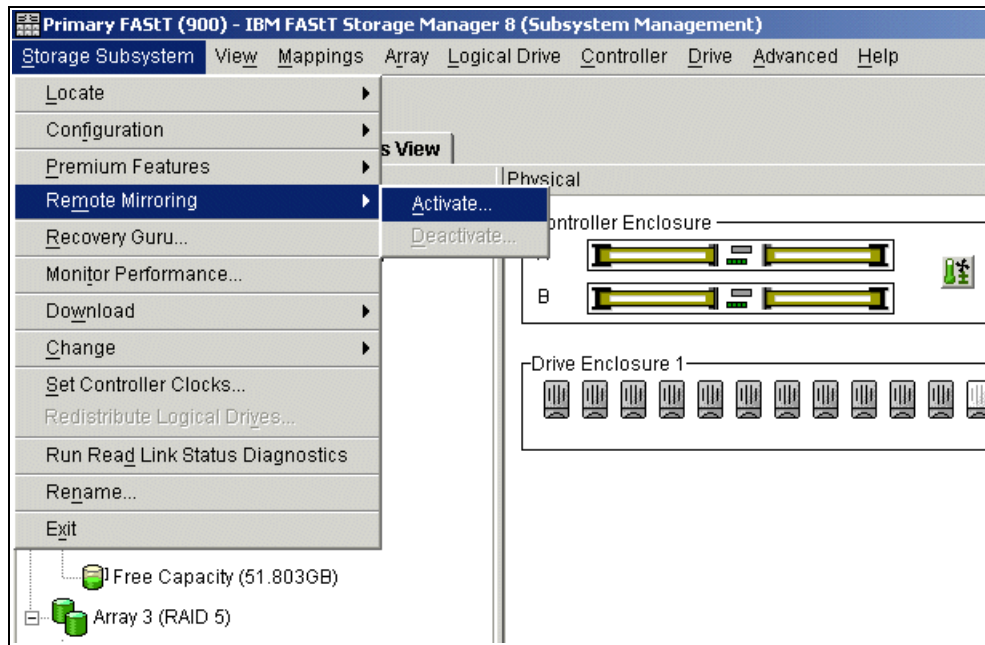

Figure 8-12 Activating Remote Mirroring
1. Select the **Storage Subsystem -> Remote Mirroring -> Activate** pull-down menu option, or select **Remote Mirroring -> Activate** from the right-mouse pop-up menu. Refer to Figure 8-12.